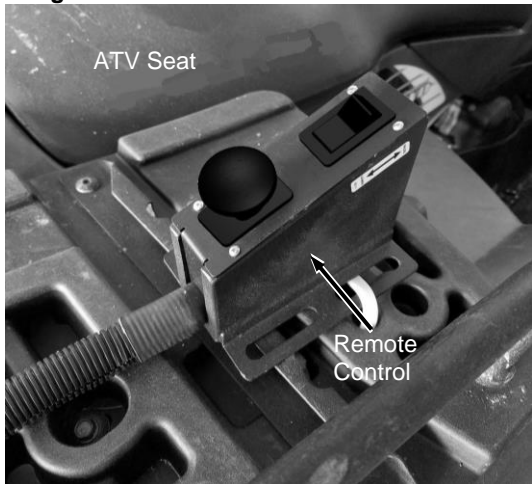

Figure 22a: ATV Mounting
1. Position the Remote Control on your Tow Vehicle within reach of the seated Tow Vehicle driver (**Figure 22a and 22b**).